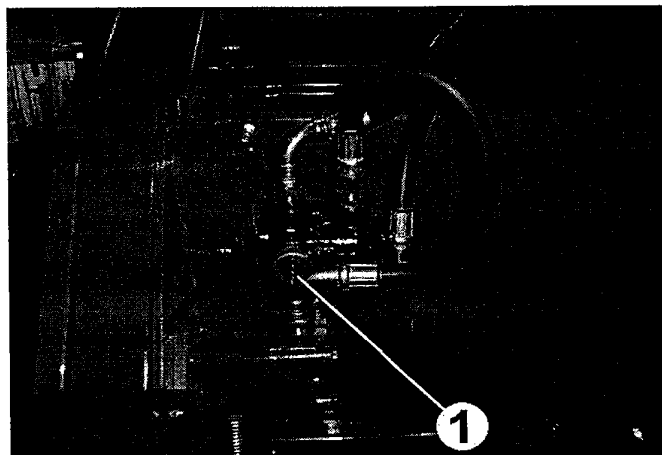

Fig 4
To adjust the speed of the web, simply turn the control knob (item 1, fig 4). The higher the number, the faster the speed.